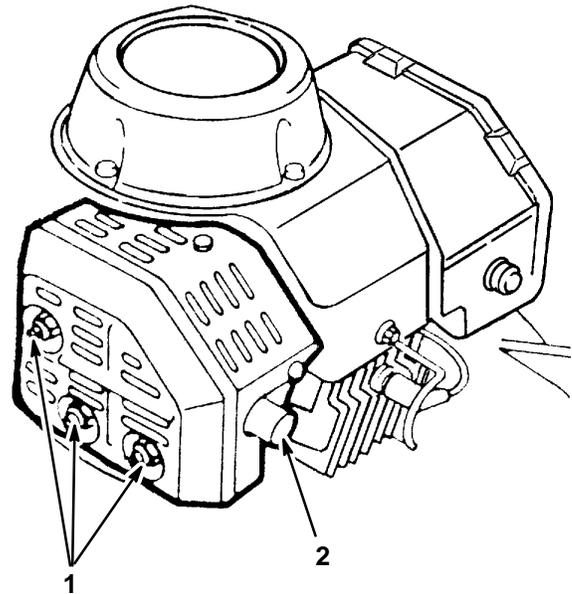

Figure 18
- Use hard wood scraper and remove carbon from end of muffler pipe (Fig. 18).
- Remove screw, two nuts, and lock washers (Fig. 18). Slide muffler off mounting pins.
6. Reinstall muffler with screw, (2) nuts and lock washers (Fig. 18). After cleaning exhaust port, make sure muffler gasket is still usable.